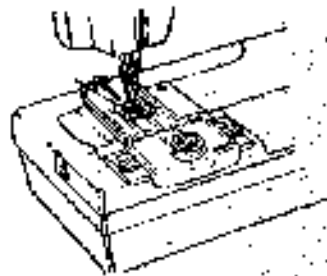

Fig. 4
5. Pick up bobbin thread through guide plate by turning hand wheel and drawing thread to back of machine. Place fabric between presser foot and guide plate. Line up edge of fabric with marked indentation on guide. See Fig. 4. If you wish all buttonholes to be  $\frac{3}{4}$  inch from edge of garment, line up fabric with  $\frac{3}{4}$  inch marking each time you start sewing a buttonhole.
4. Press both sides of the finished hem. The right side of the garment will show only the blind stitches. (Fig. 4)